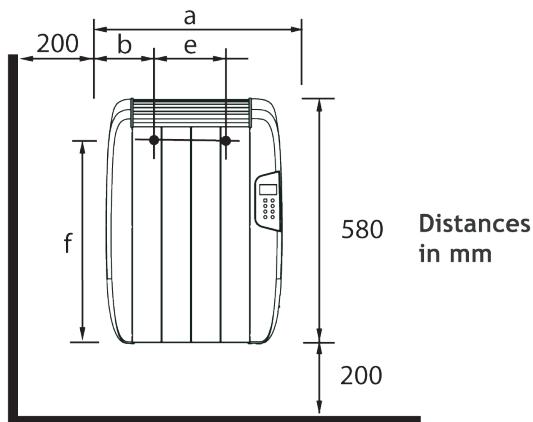

Fig. 5
- 4** While respecting the previously indicated safety measurements, make two marks on the wall according to measurement “e” indicated in figure 5 and at a height of 695 mm from the floor (not the skirting board).